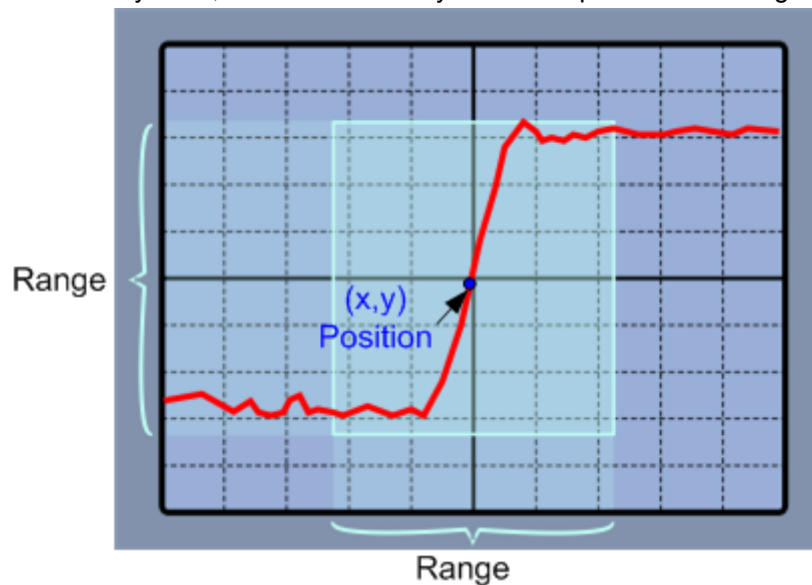

Fig. 4-2: Numeric zoom using position and range
4. Under "Position", define the y-value of the center point of the zoom area (see figure 4-2).